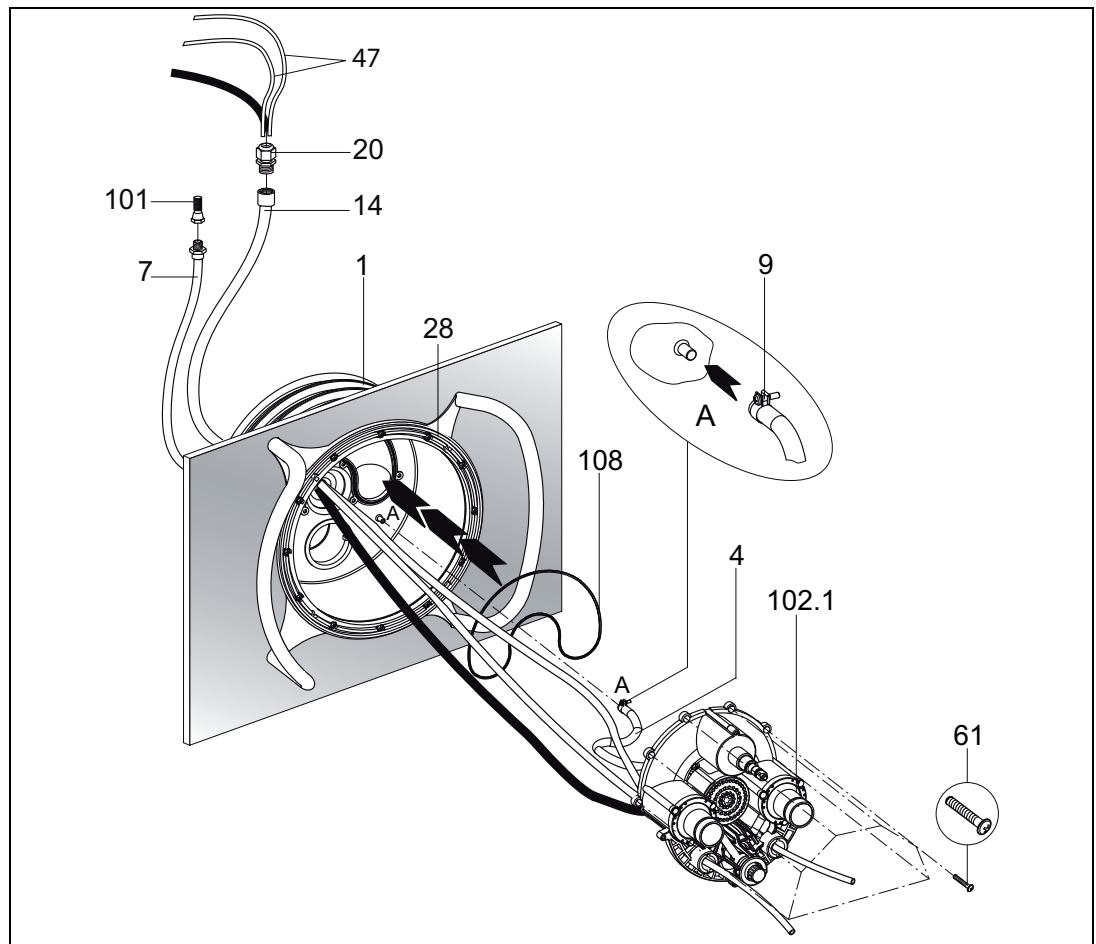

Fig. 10
2. Insert the O-ring (108) in the main housing (1) (*Fig. 10*).
3. Screw the ten enclosed tapping screws (61) into the nozzle housing. Place the pre-assembled nozzle housing (102.1) onto the main housing (1) (*Fig. 10*).
4. Lead the pneumatic hoses (47) and floodlight cables through the protective conduit (14) and seal with the cable gland (20) (*Fig. 10*).
5. Fasten the internal air line (4), which is already completely pre-assembled at the nozzle housing (102.1) or air regulator, to the main housing (1) with the hose clamp (9) (*Fig. 10*).
6. Lead the pneumatic hoses through the lower or outer openings of the nozzle housing (102.1) (light ON/OFF left; pump ON/OFF right); (*Fig. 10*)
7. Align the complete nozzle housing (102.1) to the main housing (1) and fasten the ten pre-assembled tapping screws (61) (*Fig. 10*).